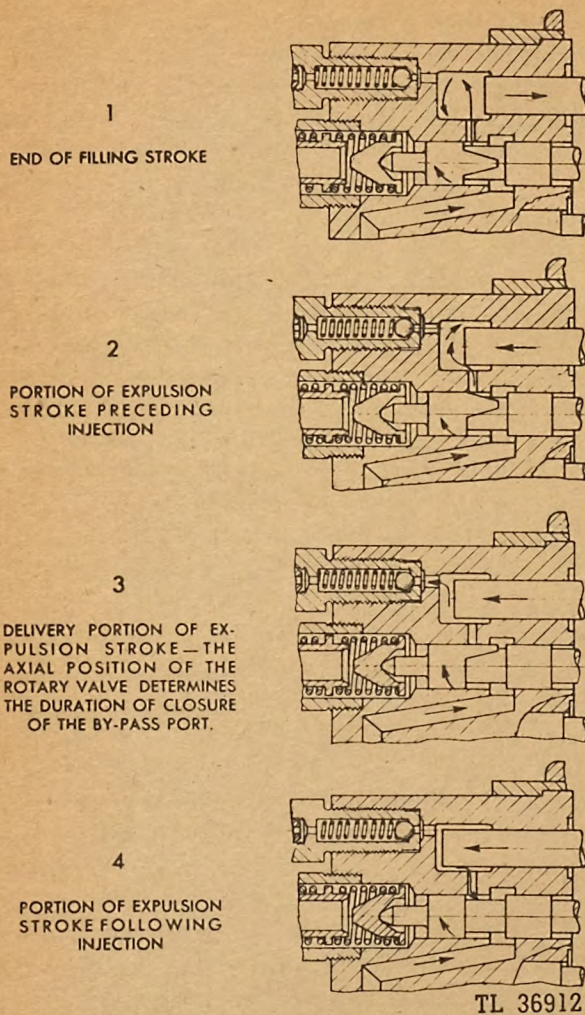

Fig. 260. Injection Cycle of Rotor Plunger
fuel reservoir. The fuel trapped in the plunger cavity when the port is closed is forced through a check valve (7) into the high pressure tubing (9). A check valve is located at the end of each plunger cavity. (See Figure 260.)